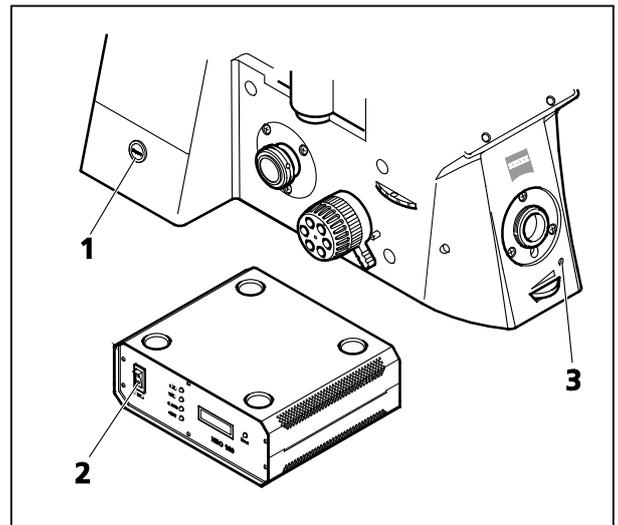

Fig. 11 Axio Observer and ballast unit for HBO 100
- Switch the microscope on and off using the power switch (on the left of the stand, Fig. 11/1).
- Switch the microscope on and off using the power button (Fig. 11/1).
- Start up the microscope using the standby button (on the left of the stand, Fig. 11/1).
The monitoring LED (3, Fig. 11) lights up when the microscope is on.
- If a fluorescence illuminator (e.g. HBO 100) is connected, switch the ballast unit on (Fig. 11/2) and off using the power switch.